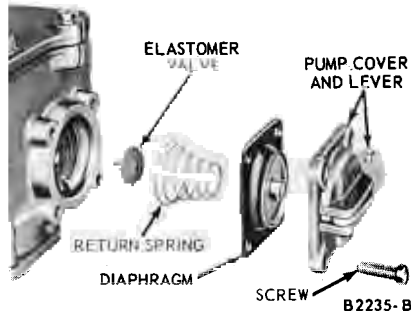

FIG. 17—Accelerating Pump Assembly
5. Remove the accelerating pump cover retaining screws. Remove the accelerating pump cover, diaphragm assembly and spring (Fig. 17).
8. Install the accelerating pump diaphragm return spring on the boss on the chamber (Fig. 17). Insert the diaphragm assembly in the cover and place the cover and diaphragm assembly into position on the main body. Install the cover screws.